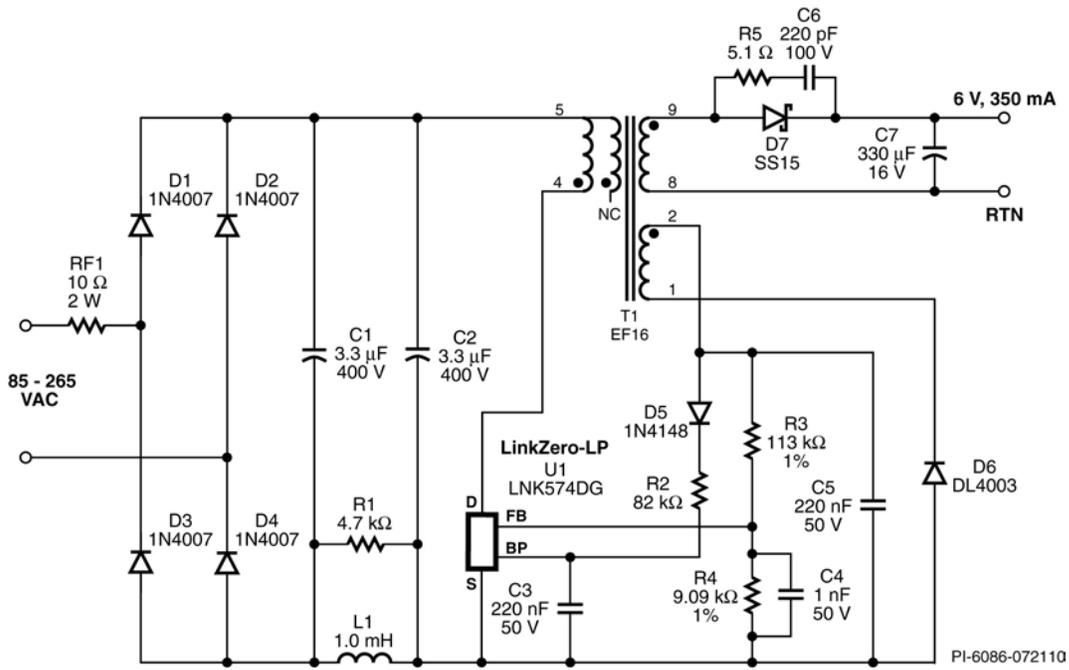

Figure 2 – Schematic.
This flyback power supply was designed around the LNK574DG, U1 in Figure 2. The output voltage is sensed through the bias winding and fed back to U1 through resistor divider R3 and R4. That feedback is used by U1 to maintain Constant Voltage (CV) regulation of the output.